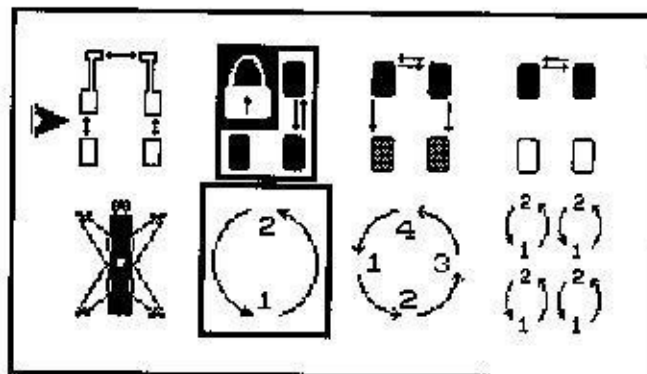

Figure 2-3
- The operator cannot change either the Alignment or Runout Modes after beginning an alignment procedure. If the operator enters the "Alignment Mode" screen after beginning an alignment and presses the RIGHT or LEFT ARROW keys, a lock symbol appears (see Figure 2-3) indicating that the modes are locked.